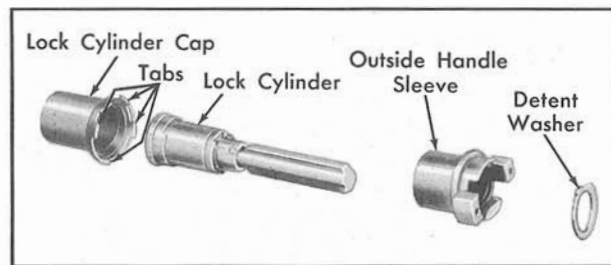

Fig. 17-21 Front Door Outside Handle Lock-Disassembled
2. With a suitable tool, remove detent washer from outside handle sleeve, Fig. 17-21.
3. Carefully bend out tabs securing lock cylinder cap and remove lock cylinder sleeve and lock cylinder, Fig. 17-21.